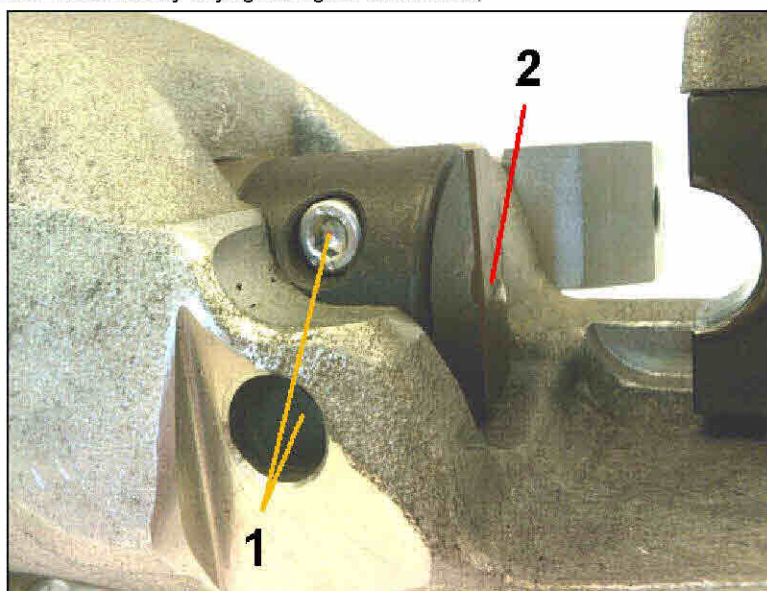

Fig. 6A
1. Remove the lock screws (ref. 1 in fig. 6A);
2. Replace the mobile tool (ref. 2 in fig. 6A);